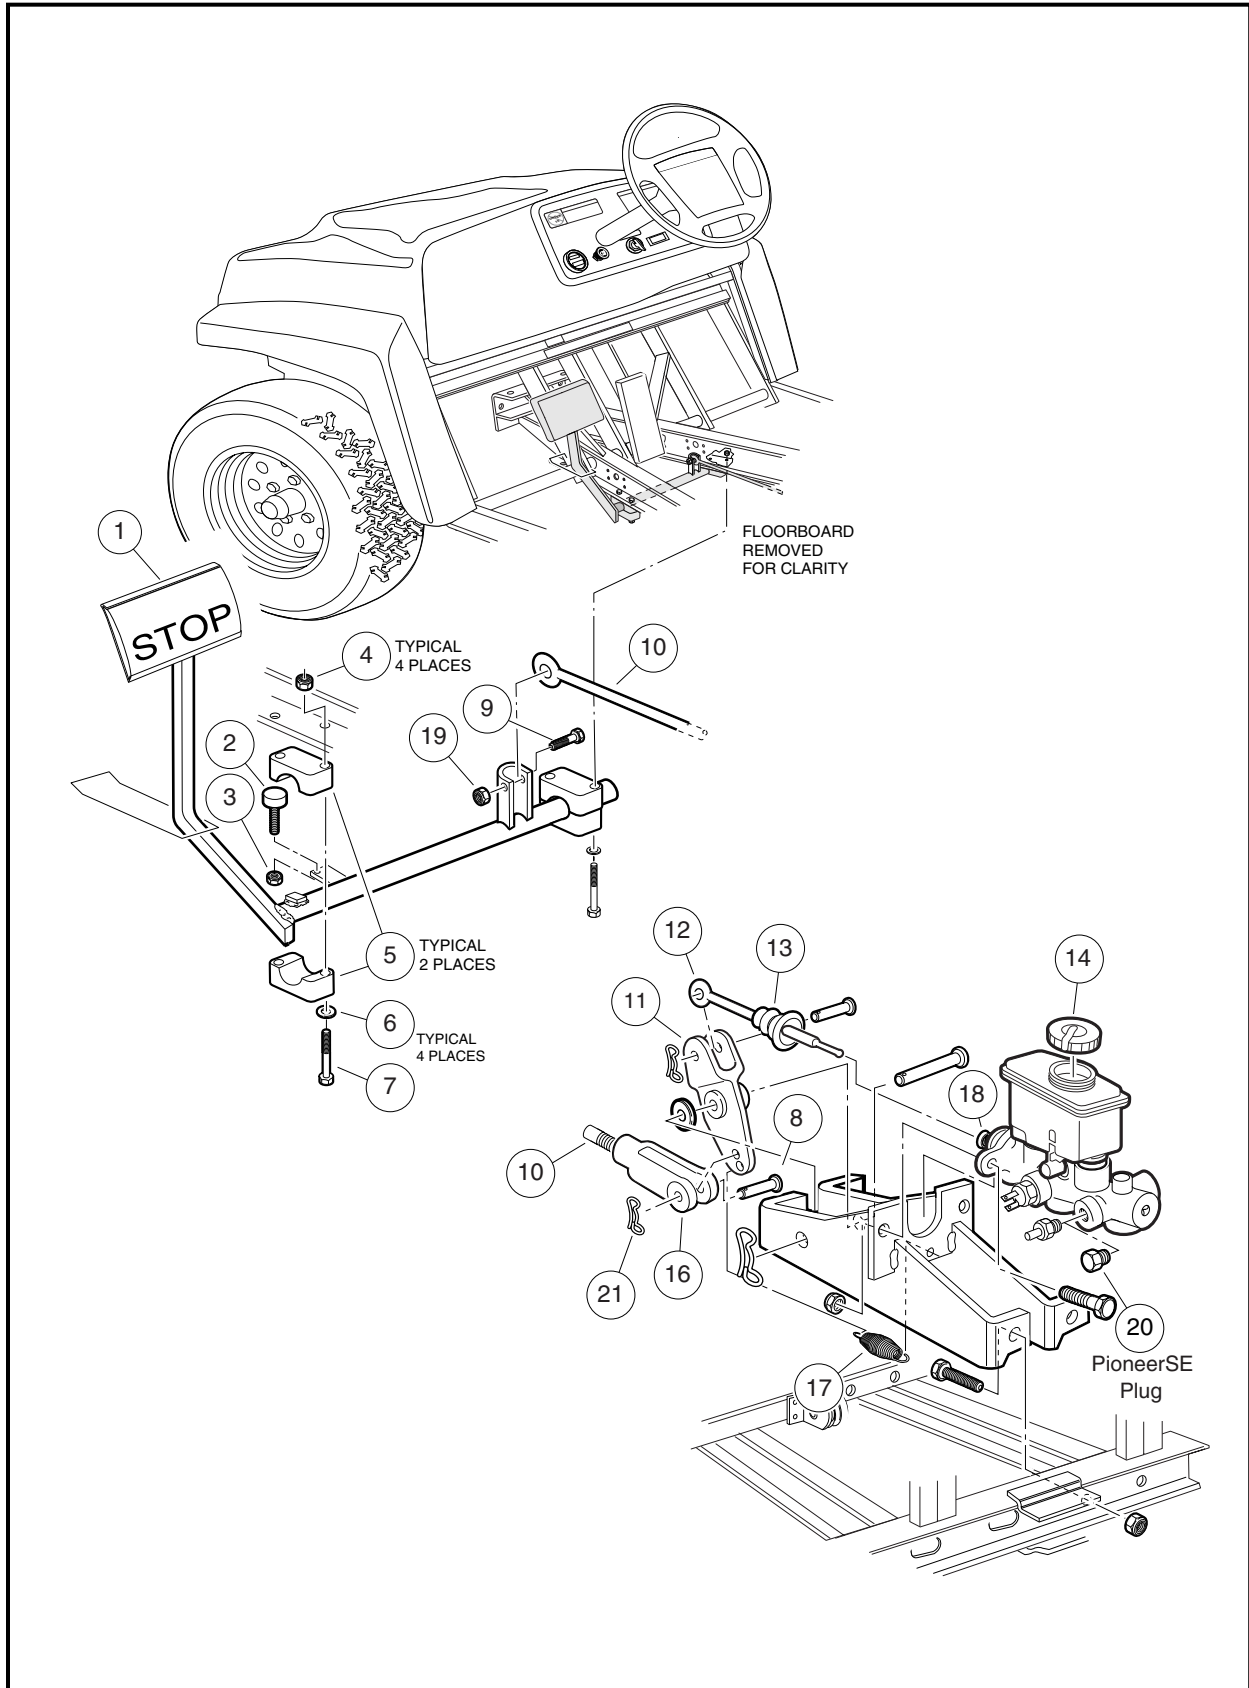
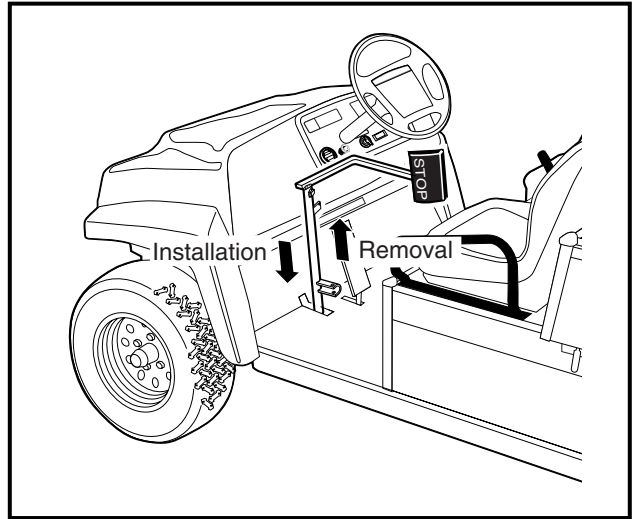

Figure 5-1 Brake Pedal Assembly
Figure 5-3 Brake Pedal Weldment Through Floor
- 4.1. Remove the bolt (9) and nut (19) (**Figure 5-1, Page 5-2**).
- 4.4. Lift pedal assembly (1) through the floorboard (**Figure 5-3, Page 5-3**).
1. Insert the brake pedal assembly (1) through the top side of the floorboard (**Figure 5-3, Page 5-3**) and install the brake pedal stop bumper (2) and nut (3) (**Figure 5-1, Page 5-2**) but do not tighten.
2. Position and attach brake pedal assembly and mounting blocks (5) with bolts (7), washers (6), and lock-nuts (4). Tighten to 70 in-lb (7.91 N·m) (**Figure 5-1, Page 5-2**).
3. Attach the equalizer rod (10) to the brake pedal assembly (1). Tighten to 17 in-lb (1.9 N·m).
2. Remove the brake rod clevis pin (8) and bow tie locking pin (21) from the brake push rod (16) and bell crank (11) (**Figure 5-1, Page 5-2**).
- Adjust the clevis (16) by rotating it so that the rod retaining bolt (8) can be placed through the clevis (16) and the bottom hole in the bell crank assembly (11) (Figure 5-1, Page 5-2). See following NOTE.
**NOTE:** The spring (17) should not be under tension while the brake pedal is at rest.
- Install the rod retaining bolt (8) through the clevis (16) and the bell crank (11). Tighten the bolt to 14 ft-lb (19 N·m).
**NOTE:** Brake pedal free play is the distance the push rod (12) travels before the master cylinder piston (18) is depressed (Figure 5-1, Page 5-2). Also see Figure 5-6, Page 5-4.